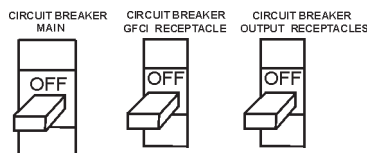

Figure 34. Main, GFCI and Load Circuit Breakers
1. Be sure to disconnect the electrical load and switch the **main, load** and **G.F.C.I.** circuit breakers (Figure 34) to the "OFF" position prior to starting the engine.